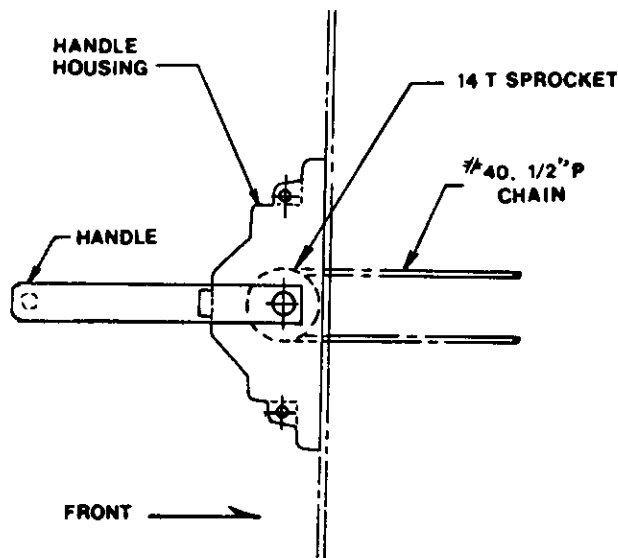

Figure 3
4. For the operating-handle sprocket location, select the shorter length of chain furnished. (a 24-inch length of #40  $\frac{1}{2}$ " pitch chain is suggested for switches with main contacts at top. **Remove chain links accordingly.**) Pass the chain around the handle sprocket such that, with the handle in mid-position, the free ends of the chain are about the same length when extended. See Figure 3 located on page 4. Place the handle in the latched-closed position. Handle "Up" - switch must be closed.